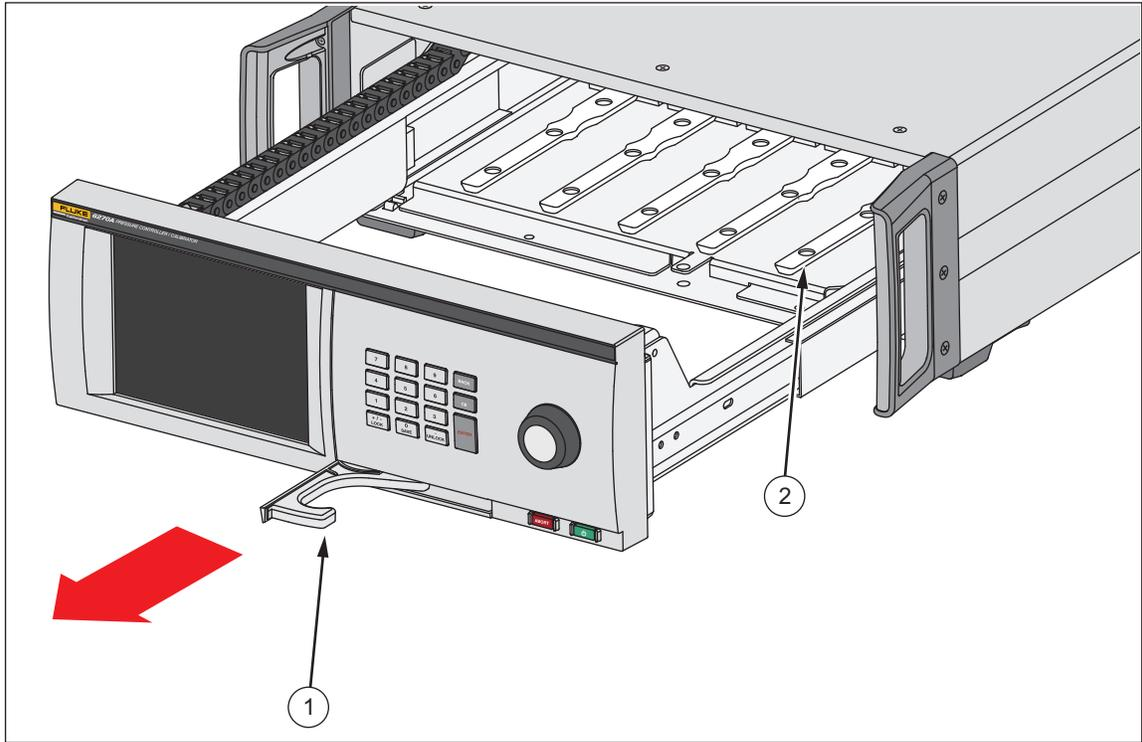
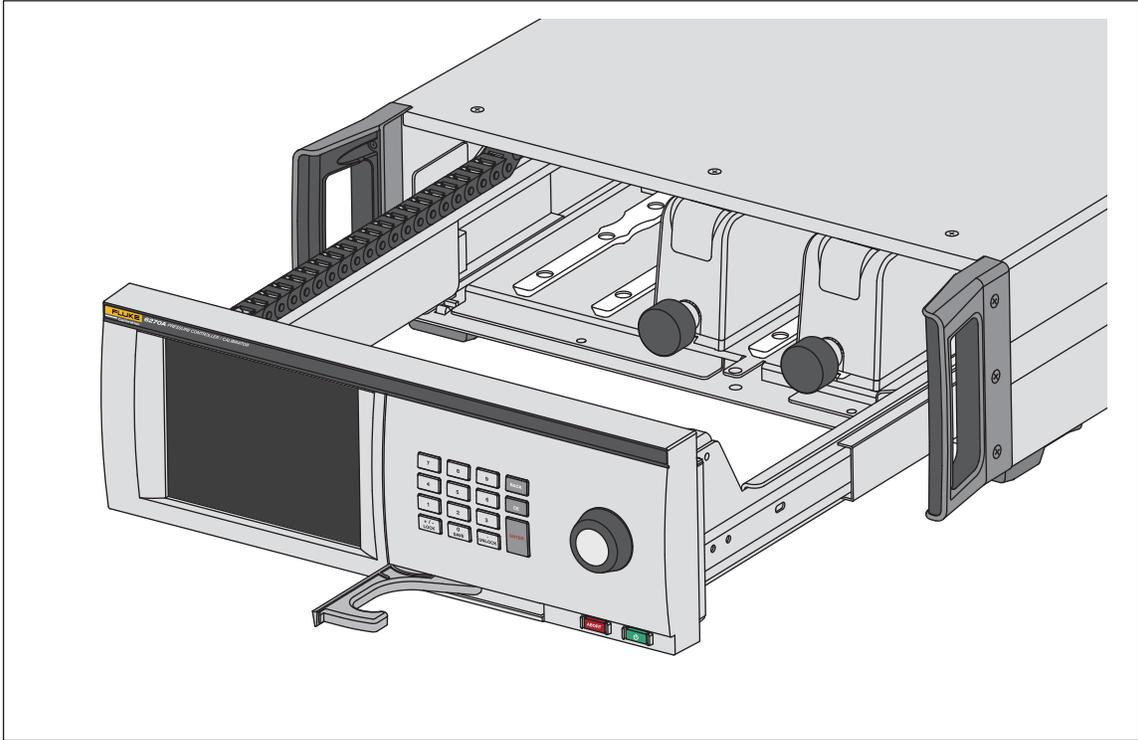

Figure 2. Module Bay
Figure 3. PMM Installation
To access the Module Bay, see Figure 2:
5. The PMM has a slot on the bottom of it that fits into the track that lies on the bottom of the inner Product case, see Figure 2 (②). Line the track up with the slot and slide the PMM into the bottom case until it stops. See Figure 3.